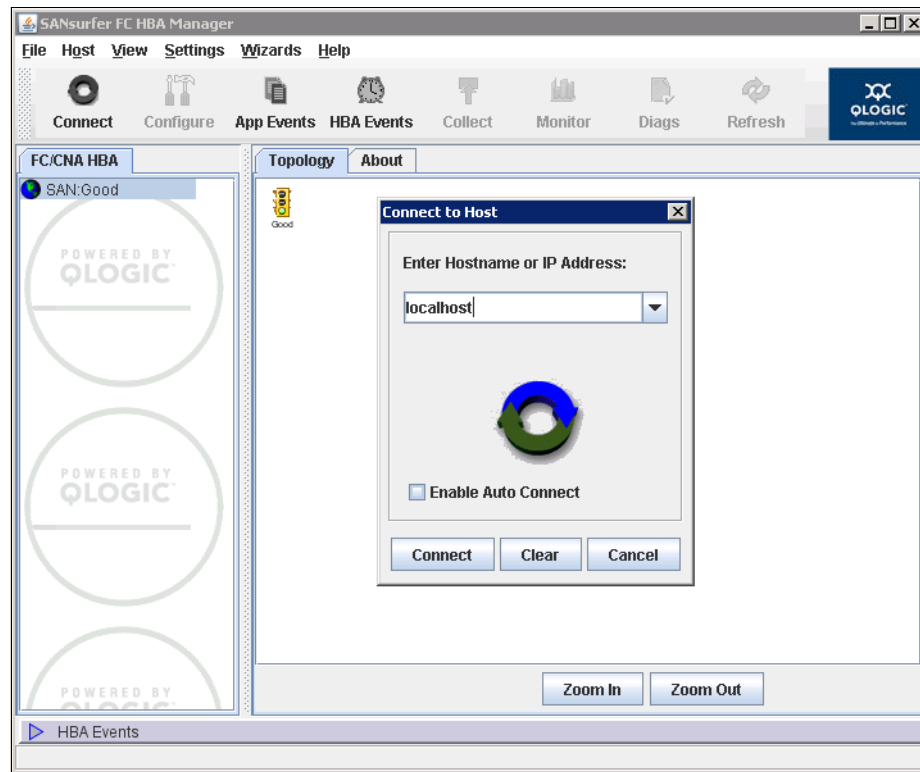

Figure 7-71 Connect to Host window
11. In the Connect to Host window (Figure 7-71), select **localhost**, and then click **Connect**.